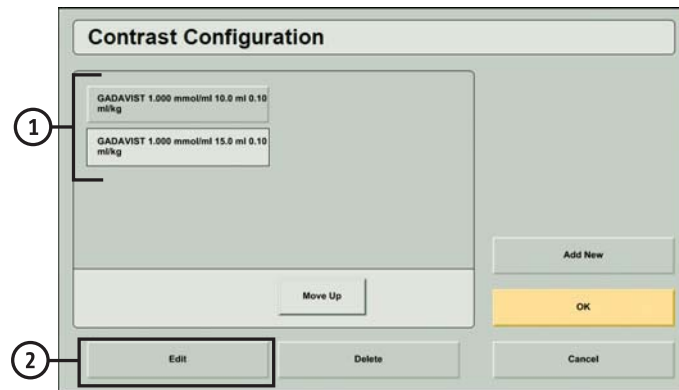

Figure 15 - 13: Select an Existing Contrast Type to edit
3. Edit information for each of the following items by selecting a tab on the left of the screen and entering the parameters (See Figure 15 - 14):
- ◆ Contrast Name: Select an existing contrast name from the list (3) or add a new contrast name by selecting Add New (4) and entering the name of the contrast using the keyboard window that will appear on the display. Select Enter to save the new contrast name to the list. Select the contrast name from the list.
- ◆ Concentration: Select an existing concentration from the list (3) or add a new concentration by selecting Add New (4) and entering the concentration (5). Select Enter (6) to save the new concentration to the list. Select the concentration from the list.
- ◆ Vial Size: Select an existing vial size from the list (3) or add a new vial size by selecting Add New (4) and entering the vial size (5). Select Enter (6) to save the new vial size to the list. Select the vial size from the list.
- ◆ Dosage: Select an existing dosage from the list (3) or add a new dosage by selecting Add New (4) and entering the dosage (5). Select Enter (6) to save the new dosage to the list. Select the dosage from the list.
4. Once a contrast name, concentration value, vial size, and dosage have been selected, select Save (7) to save the Contrast Type. Select Yes on the message window to confirm.